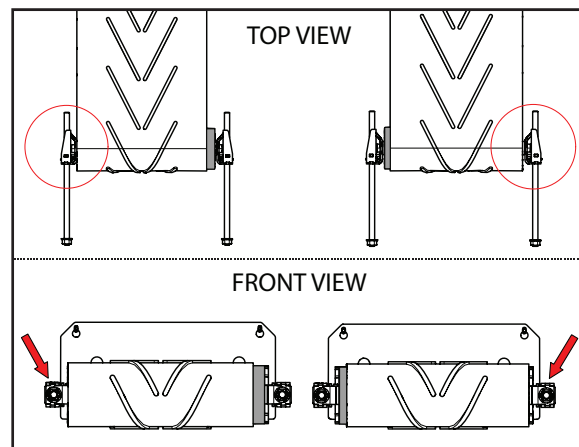

Figure 3
4. Figure 3 - Adjust the belt by tightening the adjustment bolt on the side that the belt wanders towards: